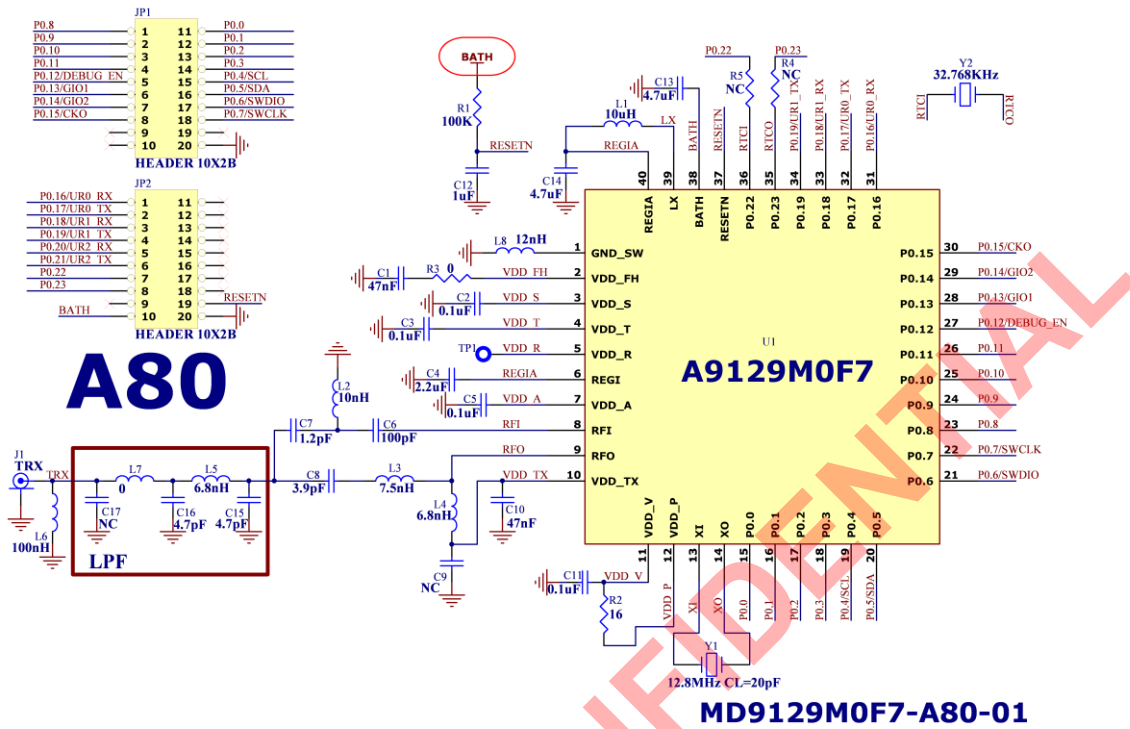
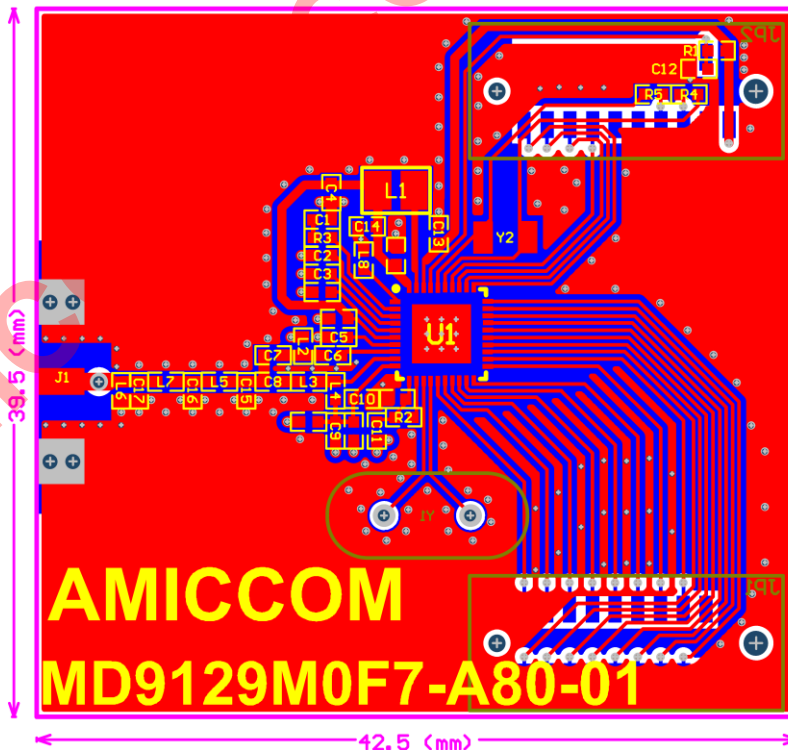

Fig. 2.1a Schematic of MD9129M0F7-A80
Fig. 2.1b Layout of MD9129M0F7-A80
A9129M0F7 is AMICCOM's reference design for sub 1GHz application (please see module spec. for the last update). The schematic is as Fig. 2.1a and the layout is as Fig. 2.1b. This document mainly notifies some key points which should be paid attention while doing PCB layout.
3. In addition to ground plane, the clean and stable VDD source is also a key factor to impact RF performance. The bypass capacitor (C5, C13, C14, C10, C11, C2, and C3) on this reference design is used for this purpose. To have the clean VDD source to A9129M0F7, those capacitors should be placed as close to the IC pins as possible and its ground via should be just nearby the components ground pad. Please refer to Fig. 2.1b.